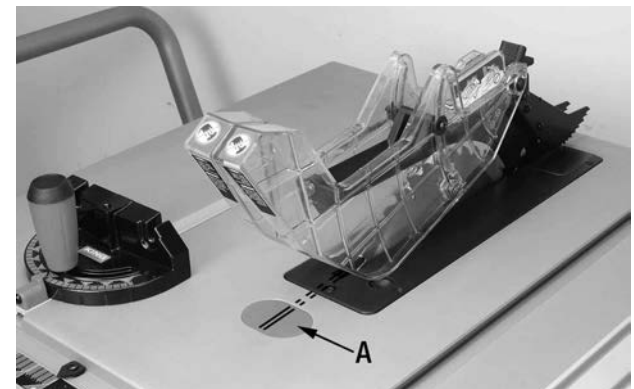

FIGURE 24
A plastic markable insert (A) Fig.24 located in front of the saw blade is provided for marking the location of the saw blade kerf (cut width) on the workpiece.
3. Turn the saw Off, once the blade has come to a complete stop, pull the miter gauge back until the freshly cut workpiece is over the markable insert (A) Fig.24.